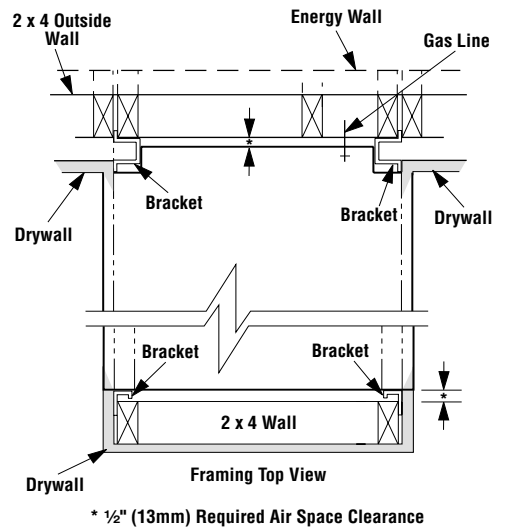

Figure 5
**Step 3.** Remove the nailing flanges from the lower control compartment and install in place with three (3) screws each. Align with the three holes on each side of the appliance (refer to Figure 5).